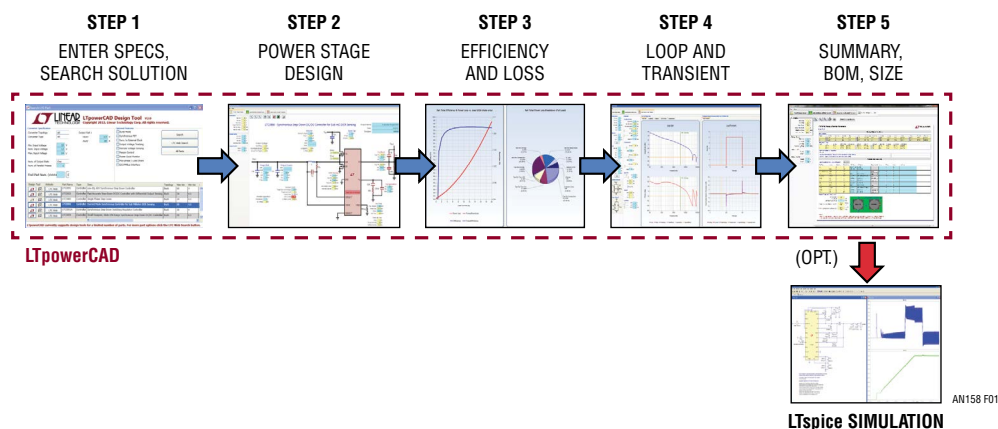

Figure 1. Designing a Power Supply in Five Simple Steps with the LTpowerCAD Design Tool
To save the user time and effort and to achieve a high quality design solution, the LTpowerCAD design tool has been developed by the power application experts at Linear Technology. This design tool provides a systematic and simple way to enable the design of the key parameters of a power supply in five simple steps: (1) entering supply specifications and selecting a solution; (2) optimizing power stage components with the help of automatic warnings; (3) optimizing supply efficiency and power losses; (4) designing loop compensation and optimizing load transients; (5) generating a summary report with BOM and PCB size estimation. Figure 1 shows the design flow using the LTpowerCAD design tool.